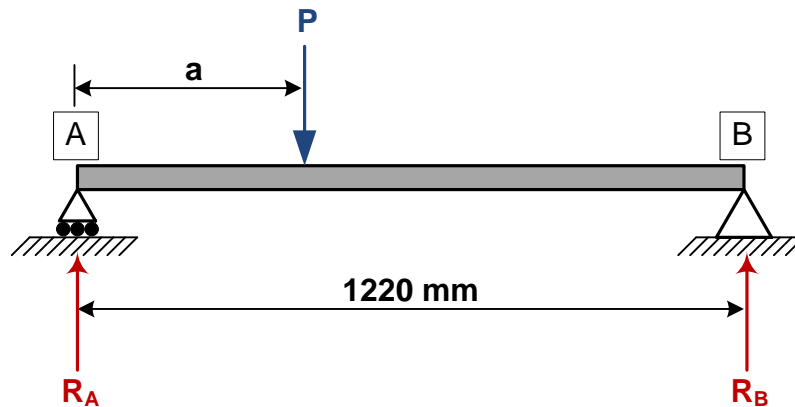

Figure 3: Load condition case 1
2. Apply a single concentrated load $P = 5.35$ lb at various distances “ a ” from the left support **A** and read both reactions R_A and R_B (case 1 in Fig. 3). Record readings in Table 1.
Observations:*Table 1: Readings from load condition case 1 (Fig. 3)*